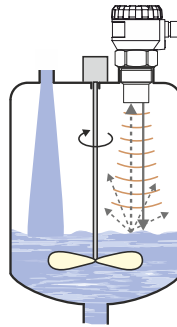

Fig. 10: Moderately stirred surface
- Scattering or attenuation of the ultrasonic signal can result if the surface level has been **moderately stirred or rippled** (by a mixer, coming liquid etc.). It can result in reduction of the measurement range or unreliable function of the level meter (Fig. 10).